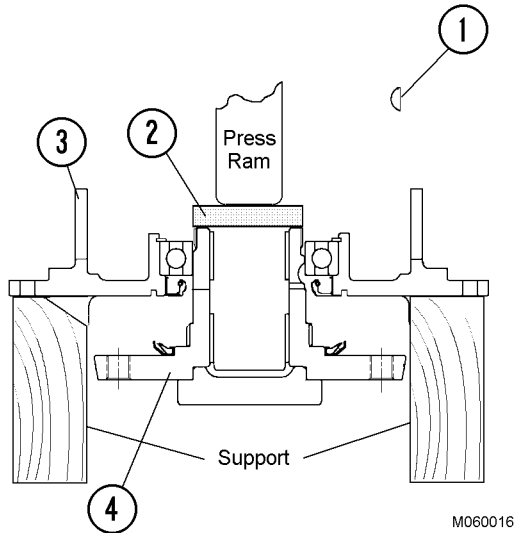

FIGURE 6-16. FAN MOUNTING HUB REMOVAL
10. Setup front bearing retainer assembly on a press as shown in Figure 6-16. Place assembly on supports which will allow hub to drop out of front ball bearing.
- a. Remove woodruff keys (1).
- b. With tool (2) positioned on fan hub and complete assembly under ram, press hub assembly out of front bearing.